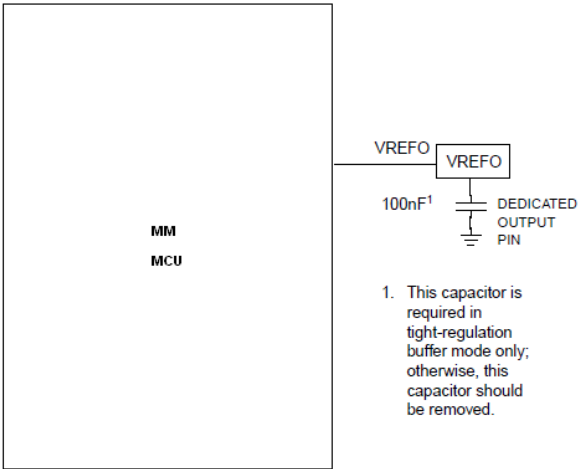

Figure 2. VREFO external pin connection
Figure 2 below shows the VREFO external pin connection necessary to be used for off-chip analog peripherals.
- If VREFO is intended to on-chip modules or off-chip (via the VREFO pin) or both, then set the VREFSC_MODE bit to 2. Please follow Figure 2 for VREFO external pin connection.